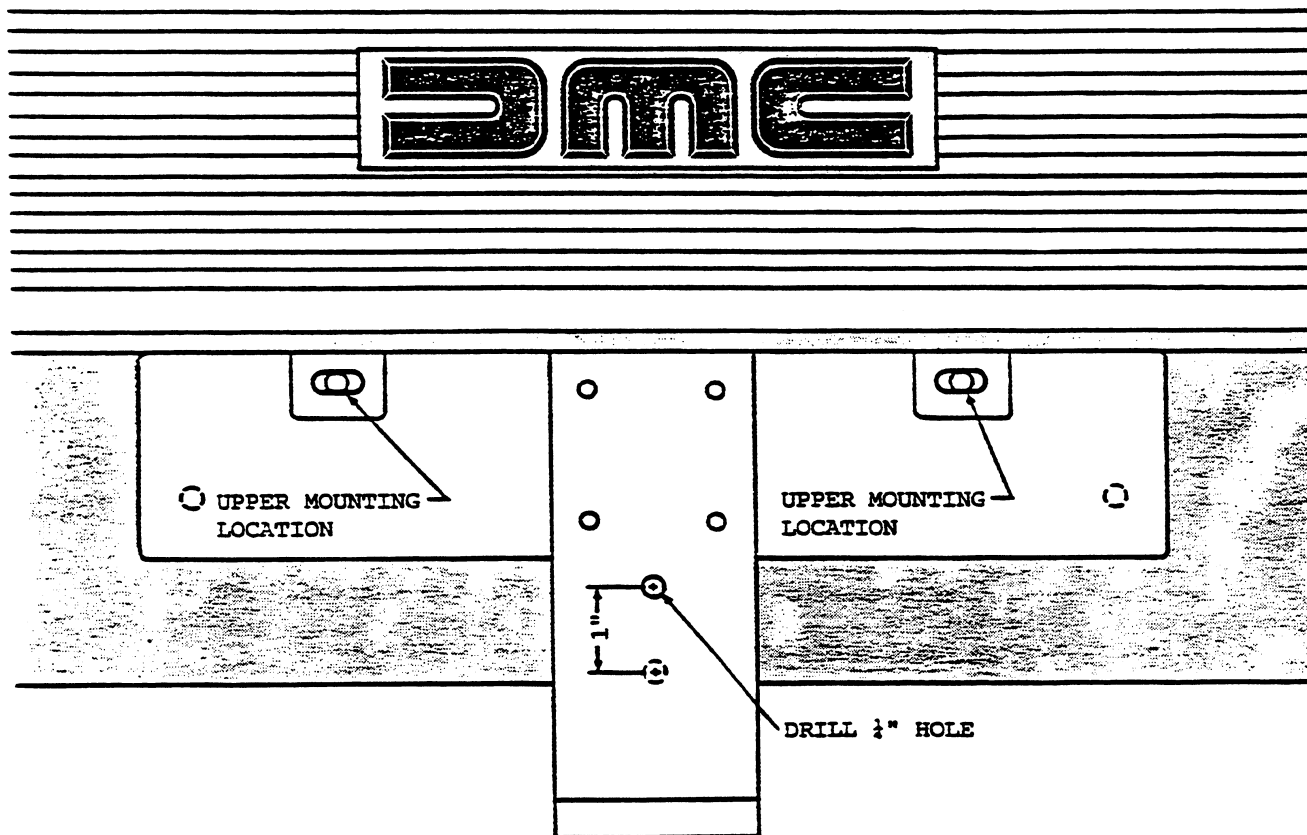

FIGURE 1
- 1) Working on bench, drill one $\frac{1}{2}$ " hole into the supplied bracket as indicated in figure 1. (see reverse side)
3. Drill 3 holes of appropriate size into the front facia (using the supplied bracket as a templet) as shown in figure 1. (see reverse side)